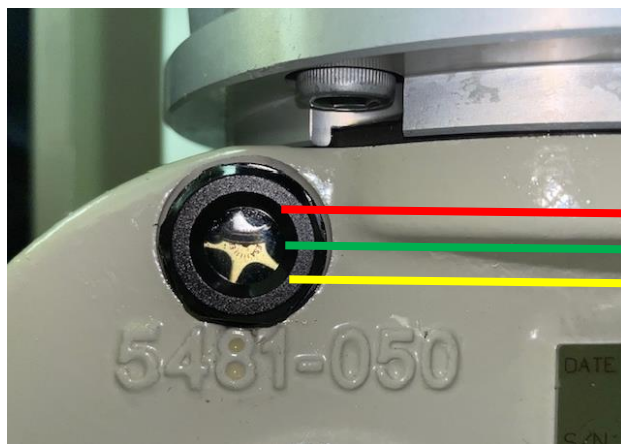

Figure 54: Oil Level Guide
To reduce the time to fill the oil reservoir, a sight glass located on the back of the injection pump housing, Figure 54, can be removed to provide an air vent while filling the oil chamber. The sight glass can be accessed when the side panel closest to the injection pump is removed.
3. Remove the sight glass port, Figure 54 (optional but recommended).